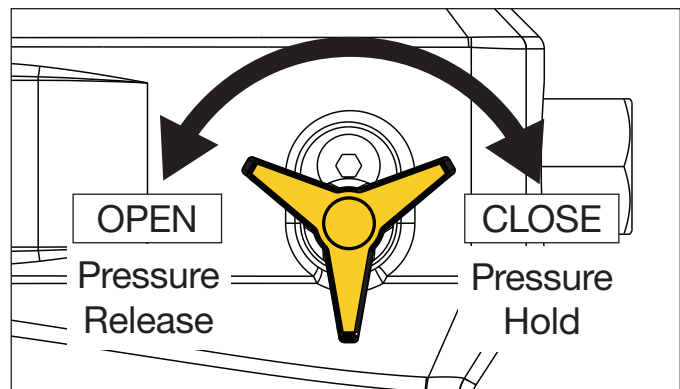

Figure 11: Release Valve
2. Open the pump release valve (turn it counter clockwise at least one full turn) to relieve any residual hydraulic pressure inside the pump. Refer to Figure 11 later in this manual.
The pump contains a built-in manually operated pressure release valve. System hydraulic pressure is maintained when the valve is closed. Pressure is released to the pump hydraulic reservoir when the valve is opened. See Figure 11.